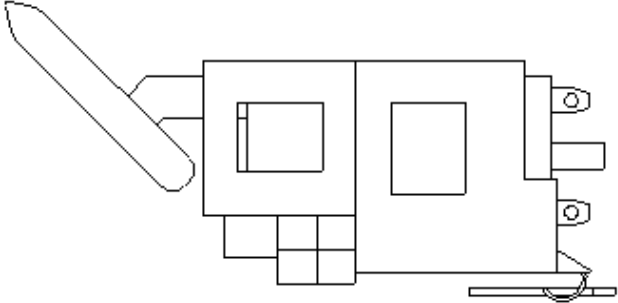
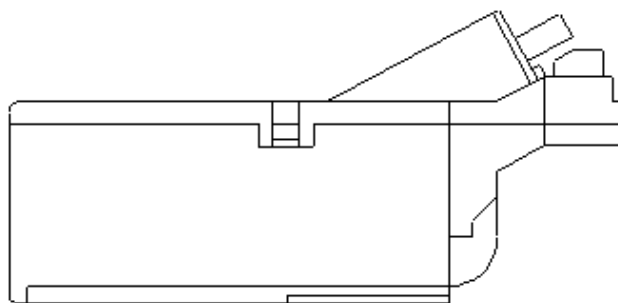

Figure 1
Figure 2
- If your pump and bracket looks like Figure 1, continue with Step 4. If your pump and module looks like Figure 2, go to Step 20.